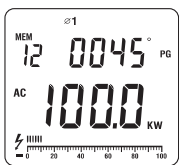

Figure 9
(see figure 9, 10, 11, 12, 13, 14, 15, 16)
- Press **SELECT** to choose first phase Ø1, see figure 9. The double displays show the active power kW value and also the PG value of Ø1.